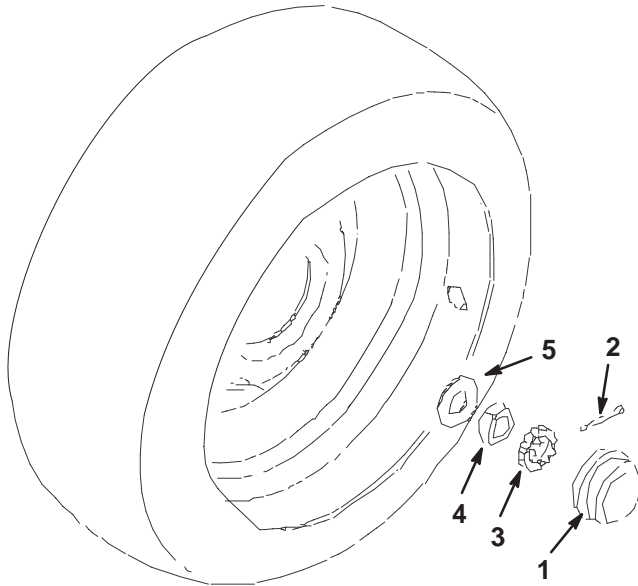

Figure 43
2. Remove dust cap from end of wheel spindle. Also remove cotter pin securing retainer (Fig. 43).
3. Tighten the jam nut (Fig. 43) to approximately 75–100 in–lbs using a hand wrench.